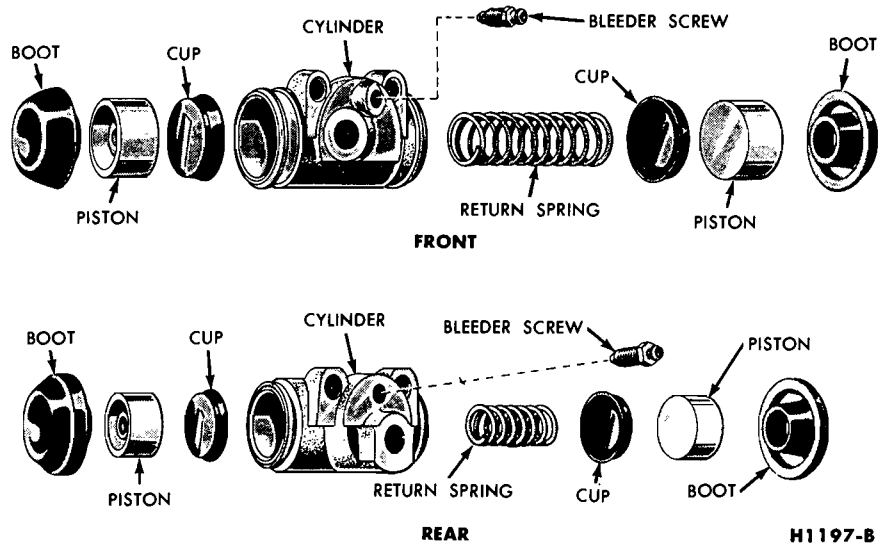

FIG. 19—Front and Rear Wheel Cylinders
On 8-cylinder models and on all Comets and Fairlanes, remove the links and rubber boots from the ends of the piston. Remove the pistons, cups, and return spring from the cylinder bore (Fig. 19).
3. Insert the return spring, cups, and pistons into their respective positions in the cylinder bore (Fig. 19). Place a boot over each end of the cylinder. On 8-cylinder model Mustangs, Cougars, Falcons and all Comets and Fairlanes, install the links in the ends of the brake cylinders.